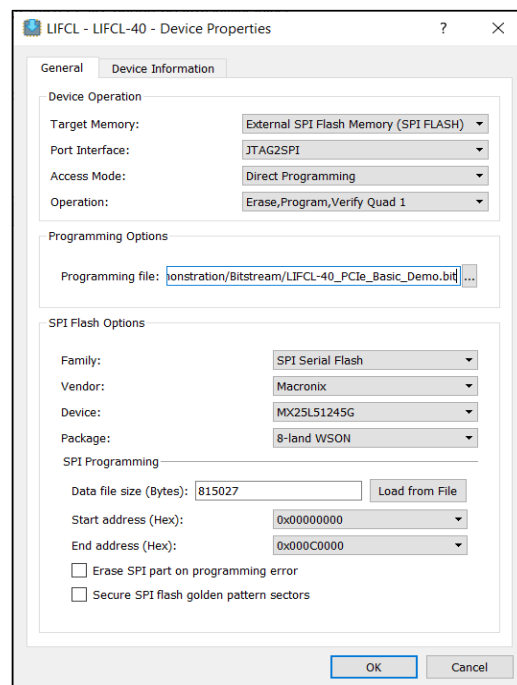

Figure 5.12. Device Properties Window for CrossLink-NX SPI Flash Programming
- For CrossLink-NX, select the settings as shown in Figure 5.12.